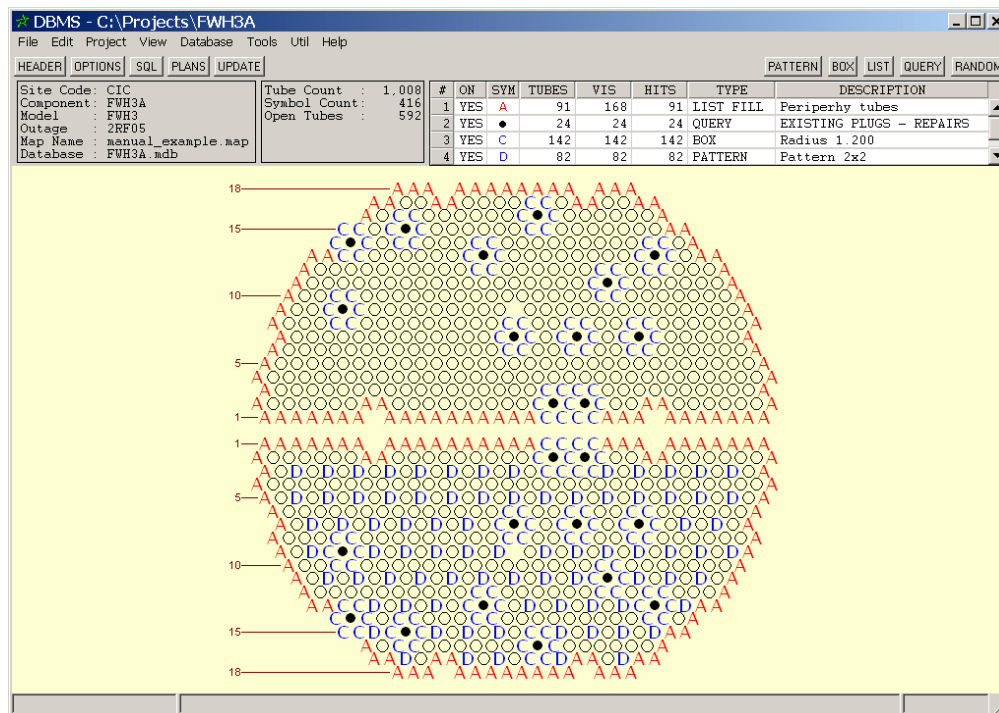

Figure 9-11. Using the Pattern Fill Dialog on a Selected Section
STEP 11: Click **OK** on the **Pattern Fill** dialog. A 2x2 pattern of 82 tubes should now appear in inlet pass only (See Figure 9-11).
All tubes that we want to inspect and the plugged tubes should now be plotted on the map. A total symbol count of 416 tubes should be displayed in the upper center area of the *DBMS* screen as shown in Figure 9-11. Now that we have identified all the tubes to be inspected for *2RF05*, let's finish up creating the inspection plan.